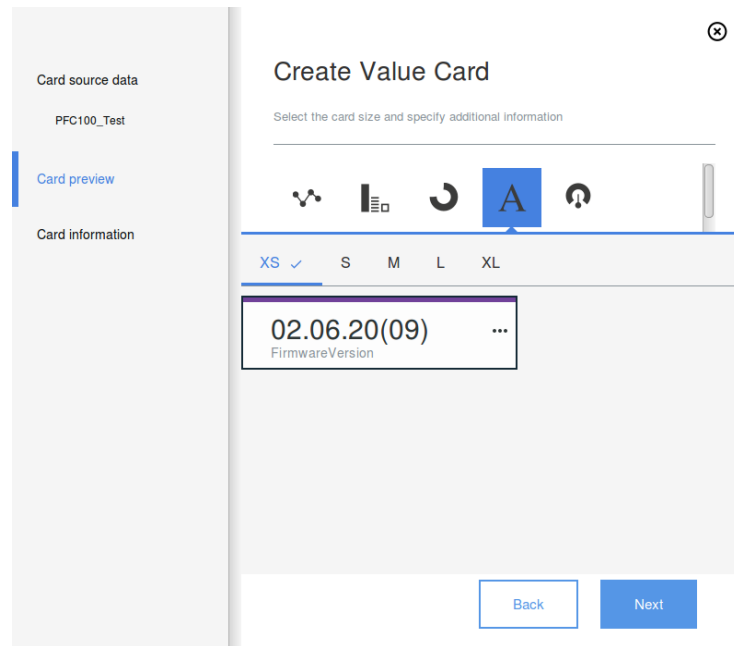

Figure 4-14: Preview of the Card with Selected Data
11. Click **[Next]** to display a card preview (see Figure 4-14).